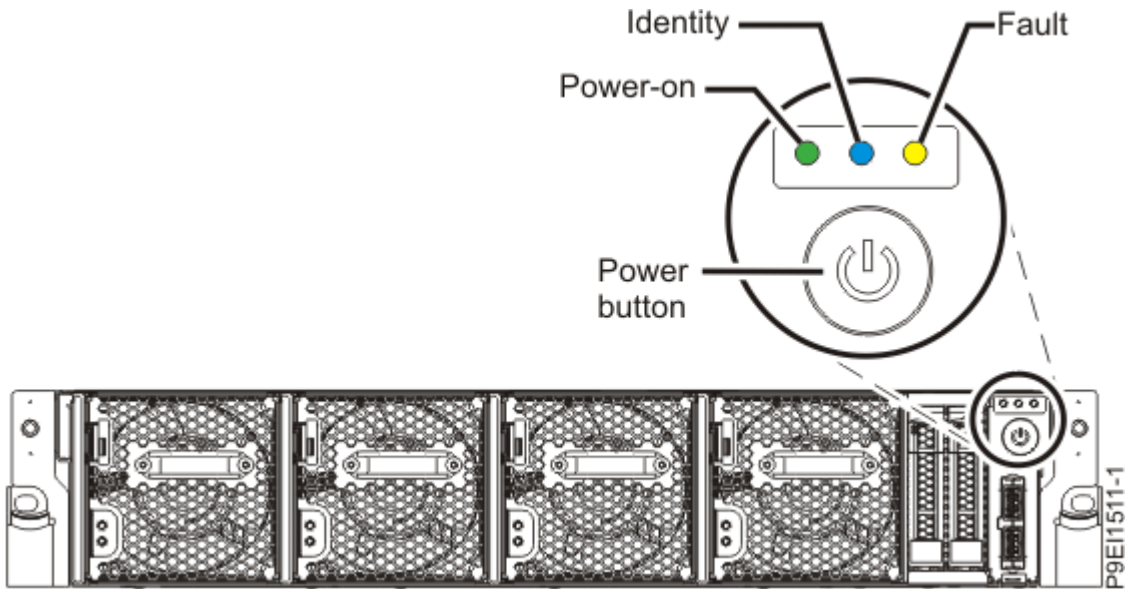

Figure 27. Power button
- The power-on LED as shown in Figure 27 on page 39, is flashing. A flashing light indicates standby power to the unit.
3. Press the power button that is shown in Figure 27 on page 39.